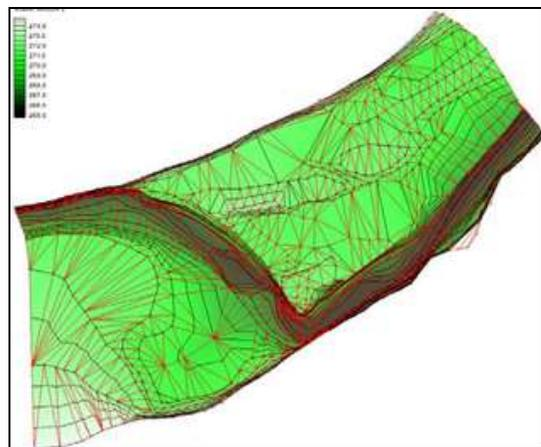

Figure 11 Clean TIN of the Cimarron River.
13. In the *Open* dialog, locate and click on the file “cimarron\_updated.sms”. If asked to delete existing data, click **Yes**. The final scatter set should be like Figure 11. Users can also display the breaklines in this file to see the 26 created line used for cleanup.